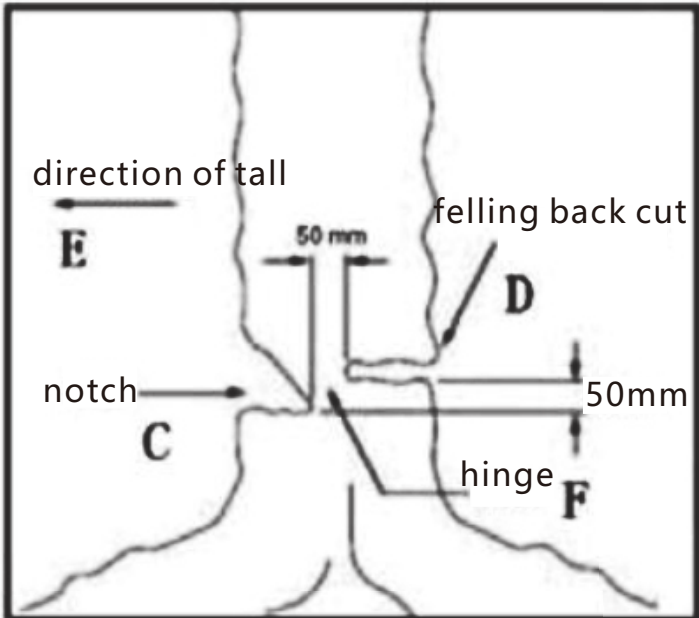

Fig.2B
WARNING: Never walk in front of a tree that has been notched. Make the felling cut (D) from the other side of the tree and 3-5cm above the edge of the notch (C) (Fig. 2B)